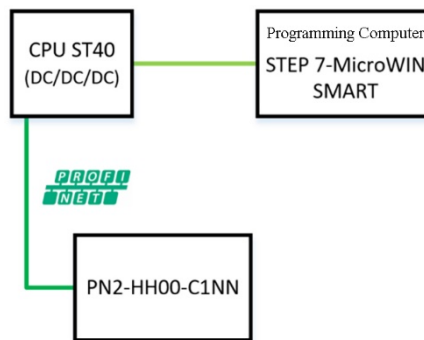

Fig.5-8-11 Communication Configuration Diagram
1. See Fig. 5-8-11 for the communication link diagram.